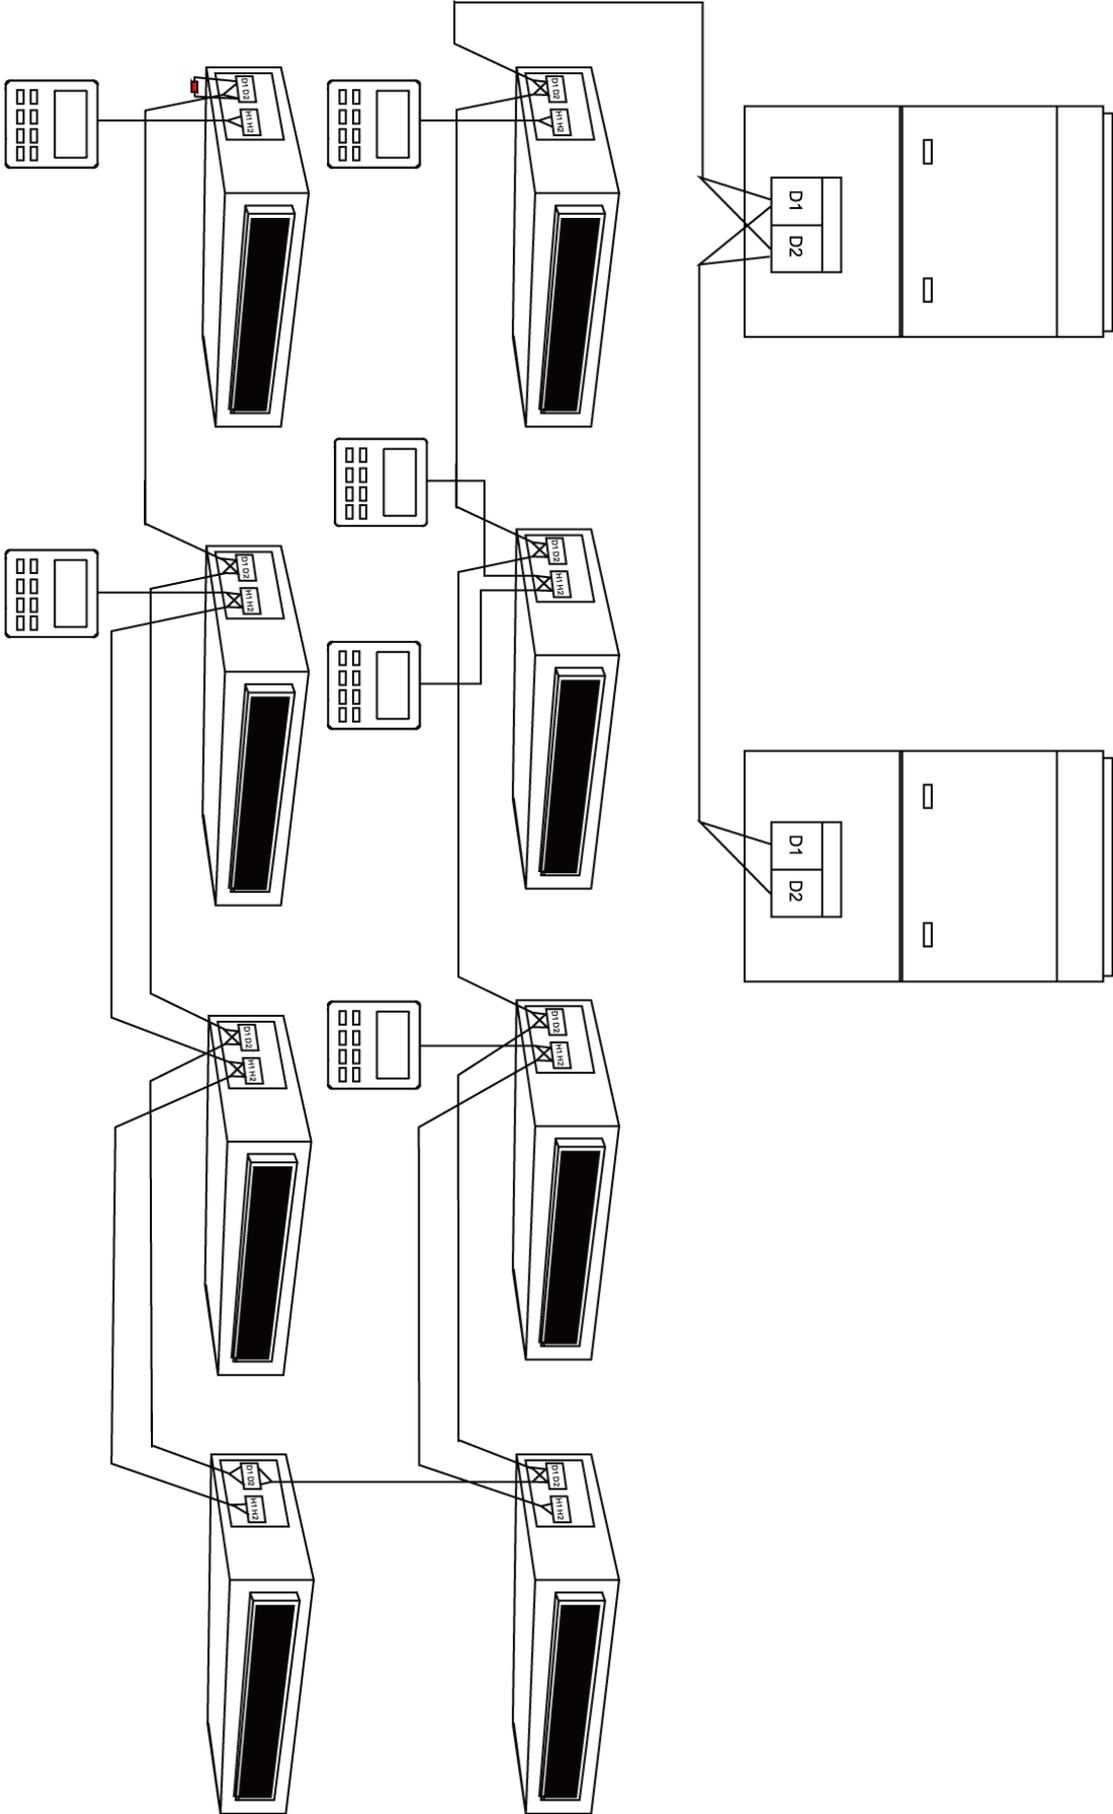

Fig 5.5.1
- (1) Communication wire of indoor unit and outdoor unit (or indoor unit) is connected to D1, D2.
- (2) Wired controller is connected to H1, H2.
- (3) One indoor unit can connect two wired controllers that must be set as master one and slave one.
- (4) One wired controller can control 16 indoor units in maximum at the same time (as shown in fig 5.5.1).